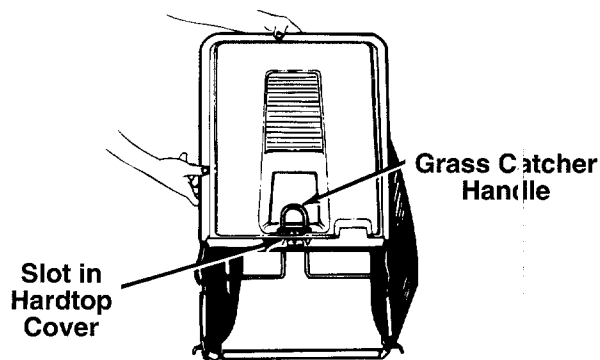

FIGURE 5.
5. Slide the handle on the grass catcher frame into the slot in the hardtop cover from beneath the cover. See figure 5.